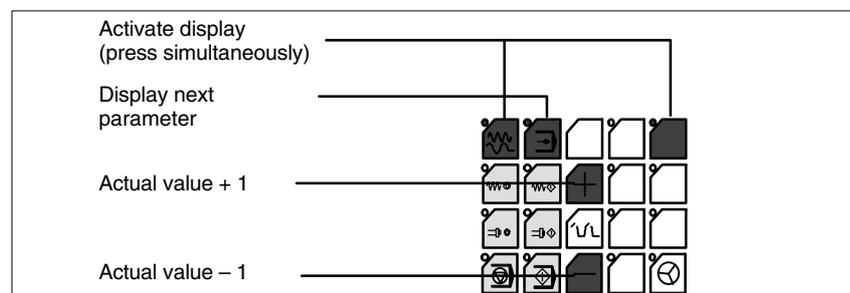

Fig. 7-17 Displaying and modifying GD circle parameters
The current values of the GD circle parameters of the HHU can be set and/or checked on the HHU display (see Fig. 7-17, Page 7-176).
While the message “Waiting for PLC” is displayed on the HHU display, the uppermost right and left keys must be pressed simultaneously (see Fig. 7-17). Then the first GD circle parameter is displayed.
The value of a GD circle parameter can be modified within its admissible range of values using the + or – keys (see Fig. 7-17).
Press the 2nd key from the left in the uppermost key row (see Fig. 7-17) to advance to the next parameter. After the last GD circle parameter has been reached, the set values will be automatically saved in the Flash-EEPROM of the HHU.
5. Setting the HHU GD circle parameters (see: Fig. 7-17, Page 7-176) according to the values of the default configuration.